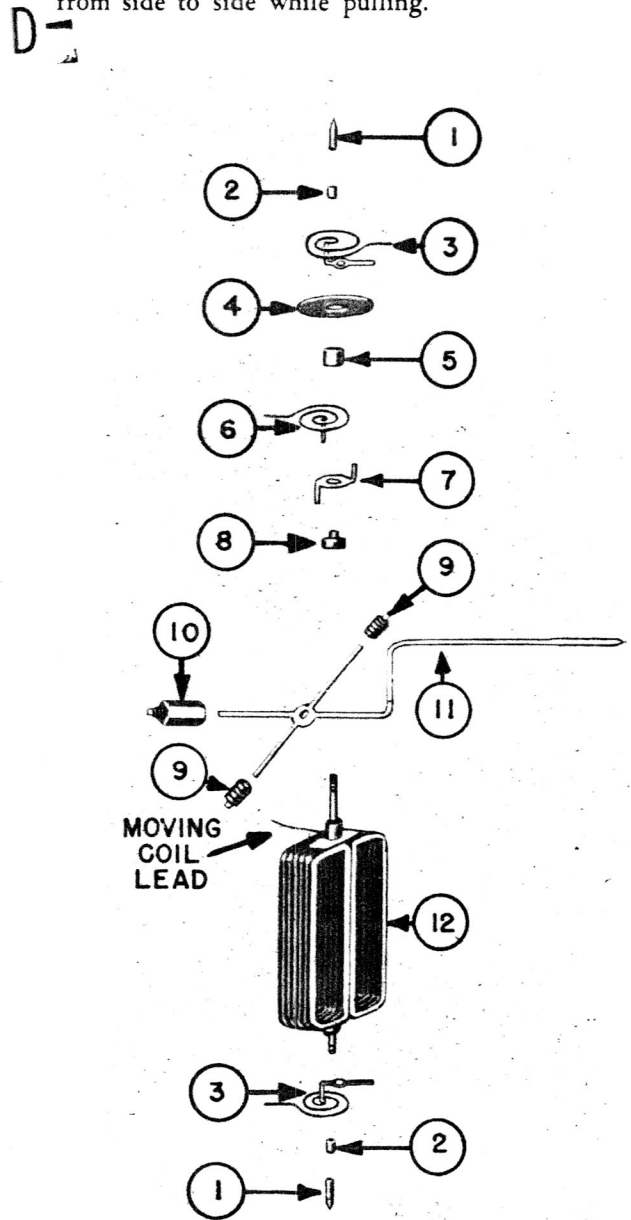

Figure 246—Moving Element Disassembly—
PART NUMBER 111482. (See figure 246.)
a. Unsolder the moving coil lead from the inner spring terminal (7) of the top pivot base.
b. Remove the nut (2) from the upper pivot base.
c. Remove the parts (3) through (11) from the upper pivot base in the order shown on figure 246, observing the precautions given in paragraph 5.c.(7)(c), this section.
d. Invert the moving element and remove nut (2) and spring (3) from the bottom pivot base.
e. The pivots (1) are forced into the pivot base and may be extracted by grasping the pivot shank in pivot pulling pliers ST54533 and turning the coil from side to side while pulling.